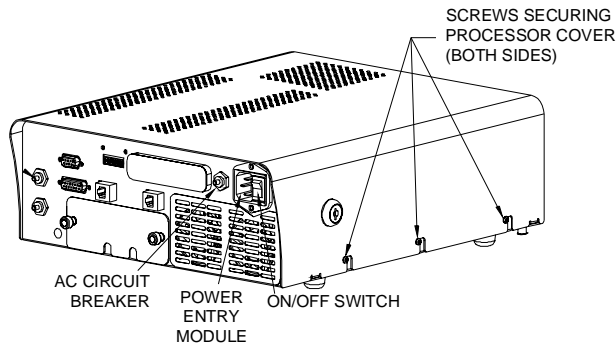

FIGURE 17 - FORCE VIBE WITH COVER
2. Unlock the lock on the processor cover and loosen the 3 screws on either side of the cover (see Figure 17). Slide the cover away from the connector side of the processor and lift the cover off of the unit.
6. Locate the group of AC power connectors behind the on/off switch, power entry module and AC circuit breaker on the rear panel of the game. Refer to Figures 17 and 18.
19. Replace and lock the processor cover, and tighten the 3 screws on each side. See Figure 17.